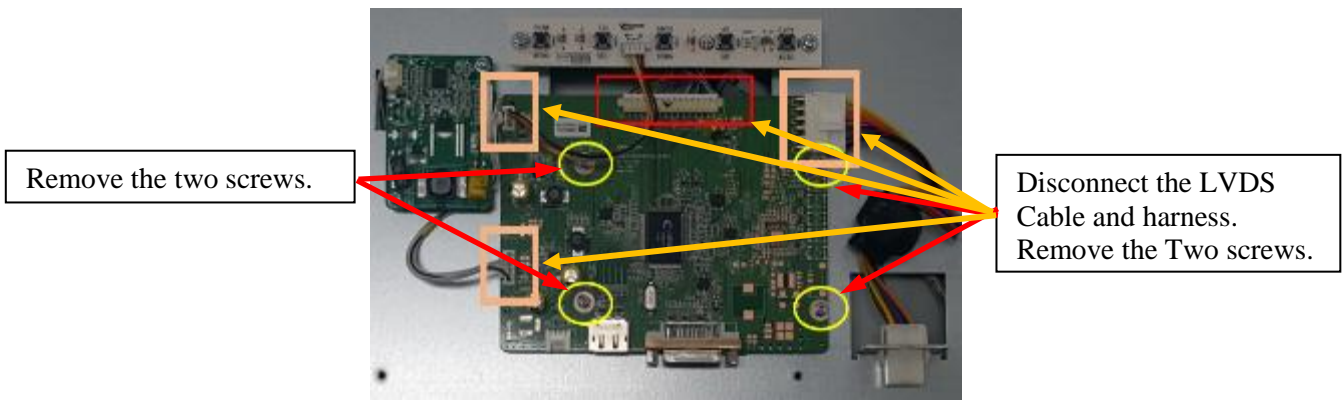

Figure 12 (69975405/KTS270DGI01)
- 2) Locate the A/D board as shown in Figure 12, 13
- 4) Disconnect the LVDS and converter harnesses from the A/D board and remove the four screws securing the A/D board to the monitor assembly. Retain the screws for later use. See Figure 12 & 13.
- 5) Install the new A/D board PN 300602 with the four screws removed in Step 4 and reconnect the LVDS and converter harnesses. See Figure 12 & 13.